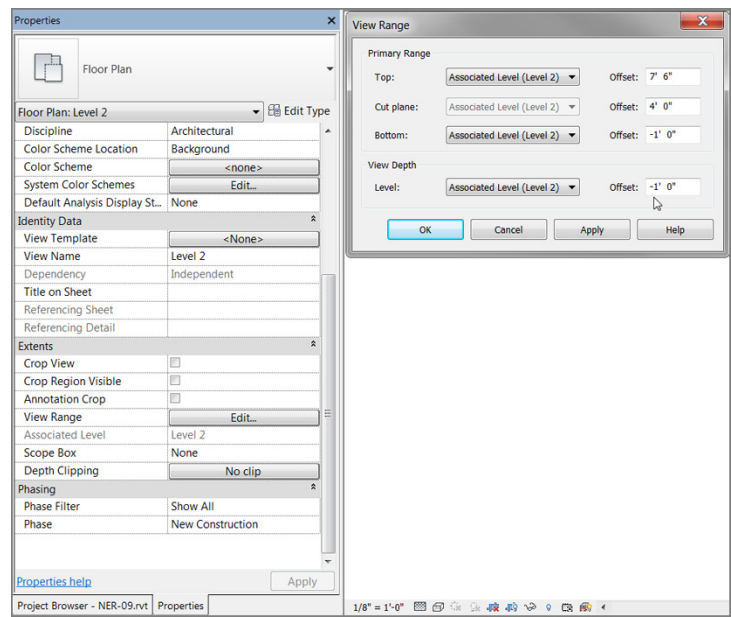

FIGURE 8.33: Setting the view range so you can see below the level
- 6. In the Properties dialog, scroll down to the View Range row and click the Edit button (see Figure 8.33).
- 8. For View Depth, set Level Offset to -1’-0”(–300mm), as shown in Figure 8.33.